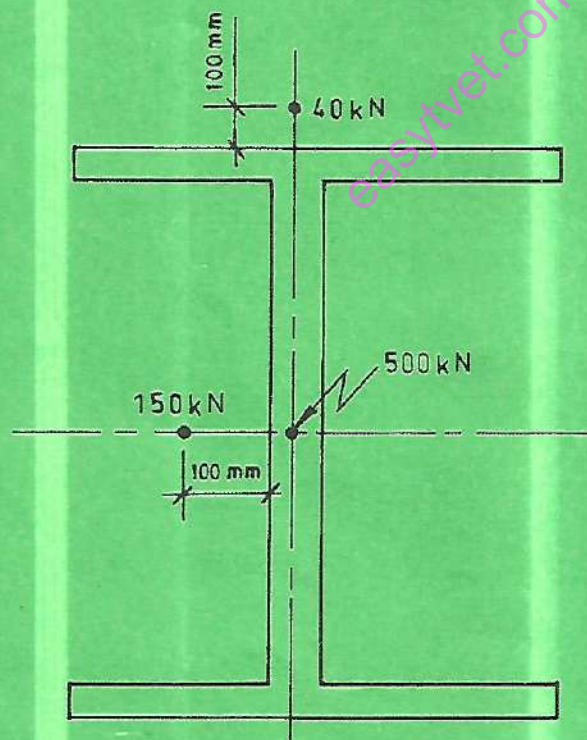

Fig. 7
- (b) Figure 7 shows the loading condition on a stanchion of actual length 8.0 m, which is fixed at one end and pinned at the other end. Check the adequacy of 305 × 305 × 118 kg/m UC in grade S 275 steel.